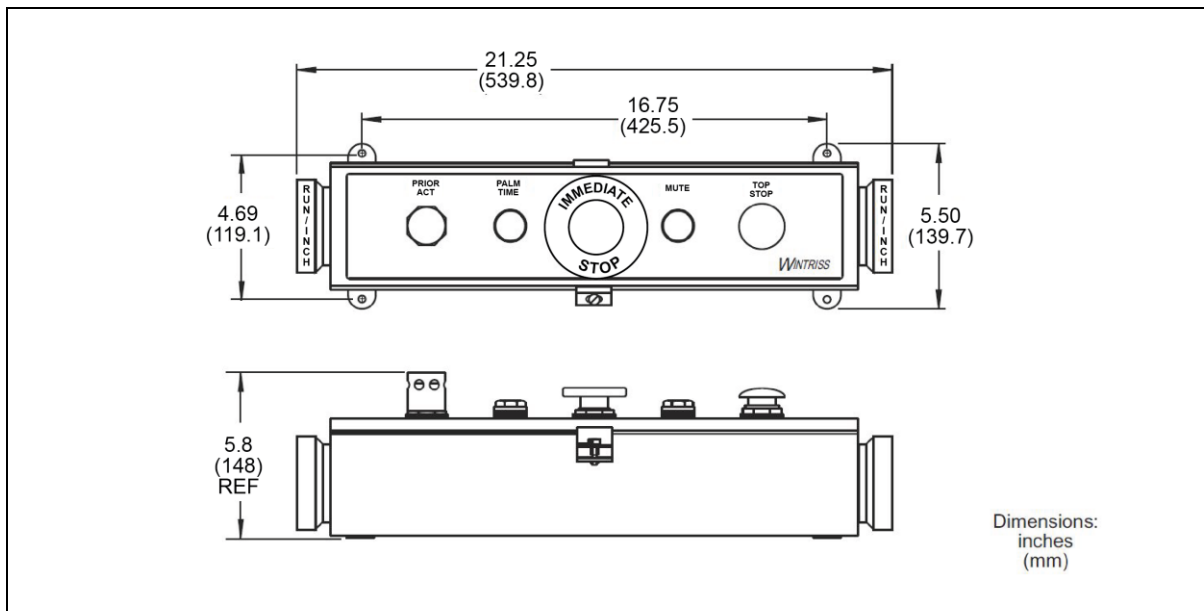
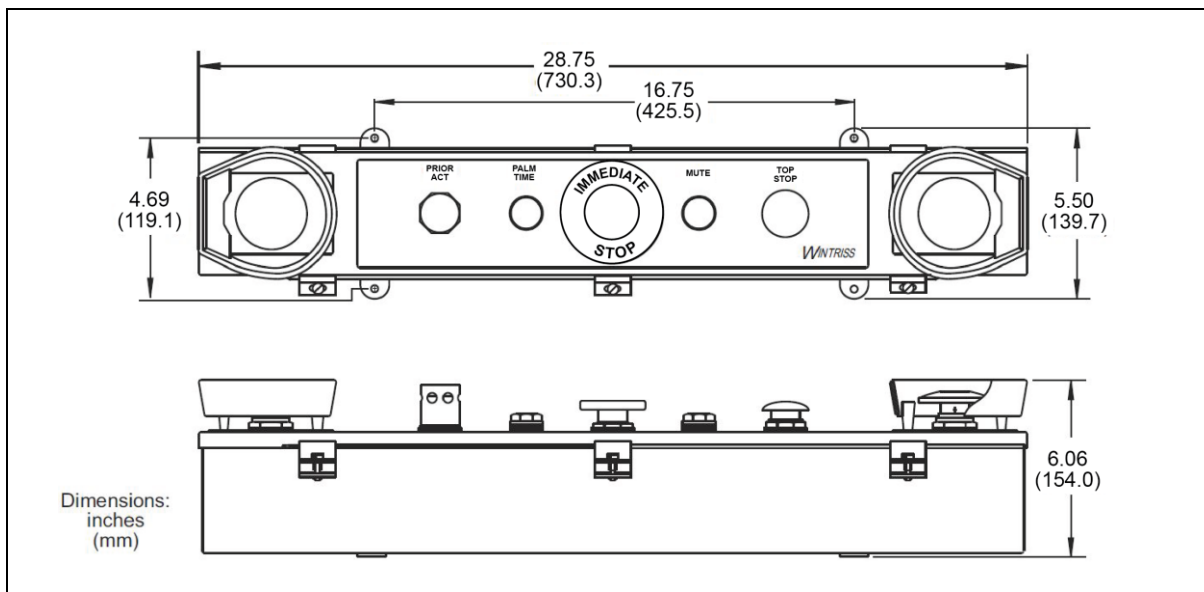

Figure 2-8. Pre-wired Operator Station with Side Run Buttons: Mounting Dimensions
Figure 2-9. Pre-wired Operator Station with Top Run Buttons: Mounting Dimensions
6. Mount the Operator Station in a permanent location after performing the applicable verification and checkout tests and calculating the correct safety distance. Refer to Figure 2-8 and Figure 2-9, above, for mounting dimensions.